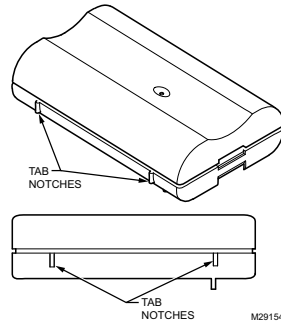
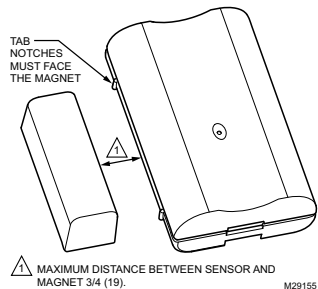

Fig. 8. Door sensor tab notches.
Fig. 9. Maximum distance between door sensor and magnet.
4. Make sure the notched side of the door sensor is pointing in the direction that you will mount the magnet. See Fig. 8 and Fig. 9.
7. Mount the magnet a maximum of 3/4 in. (19 mm) from the door sensor, as illustrated in Fig. 9.
2. Make sure the sliding door/window sensor and magnet are close to each other, within 3/4 in. (19 mm), and that the tab notches on the sensor face the magnet. See Fig. 9 on page 5.